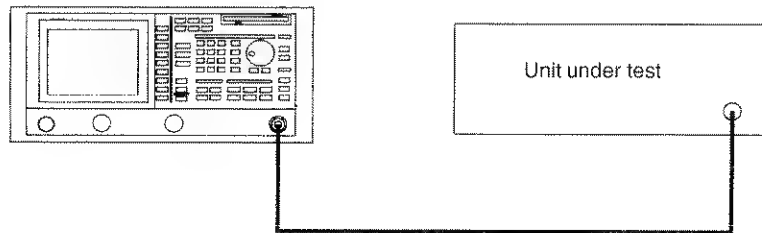

Figure 2-72 Setup for Measuring a Burst wave signal
1. Connect the unit as shown in Figure 2-72.